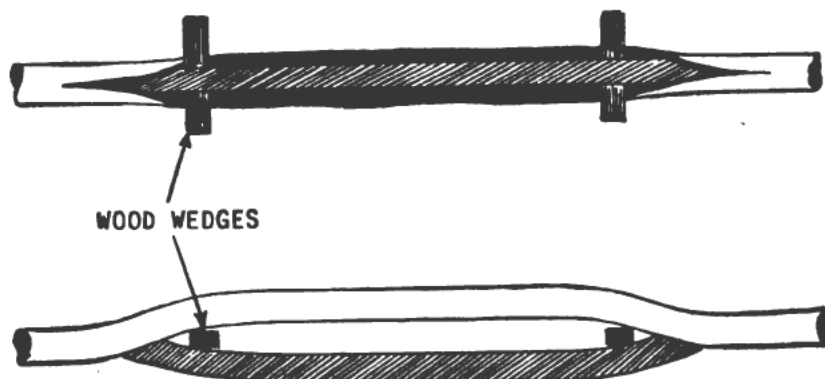

Figure 6-23.—Wedges inserted in cable to permit drying out.
5. After the sheath is cut through, open it with cable pliers. Grasp the handles of the cable pliers firmly and open the incision on one side. Place the sharp jaw in the cut and work the tongs sideways, exerting a small downward pressure at the same time. Bend the sheath cautiously so as not to put too much stress on it and to avoid deforming it. When one side of the cable sheath is bent back, repeat the process on the other side. After the cable sheath is open, push out the paper-insulated cable by inserting a wooden wedge between the sheath and the wires in the manner shown in figure 6-23. Insert enough wedges between the core and the sheath so that you have room to work. Remove the paper wrapping to expose the wires so that they can be dried out by using a desiccant or by boiling out with paraffin.